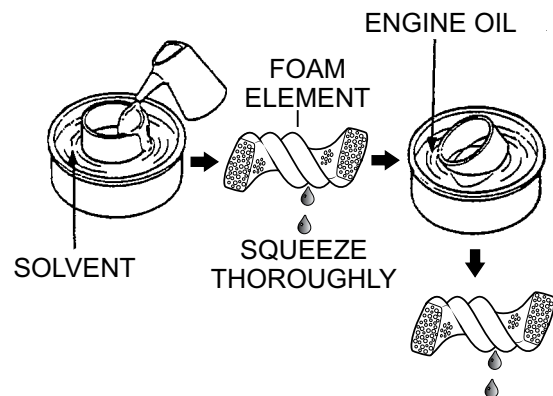

Figure 35. Cleaning Foam Element
2. Replace or clean foam element in warm, soapy water or nonflammable solvent (Figure 35). Rinse and dry thoroughly.